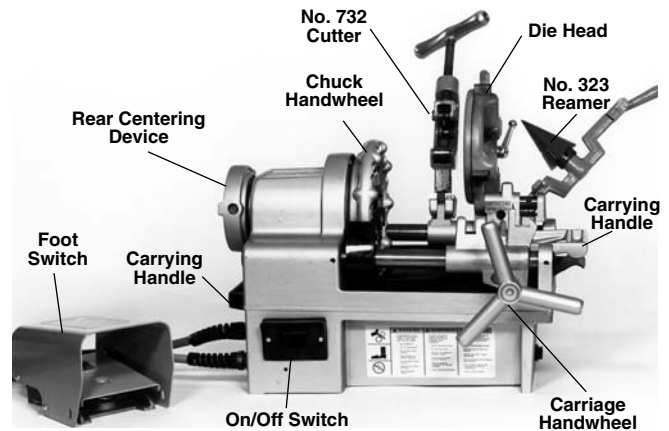

Figure 3 – No. 1215 Threading Machine
1. Make sure Threading Machine is unplugged and the ON/OFF switch is set to the OFF position (*Figure 3*).